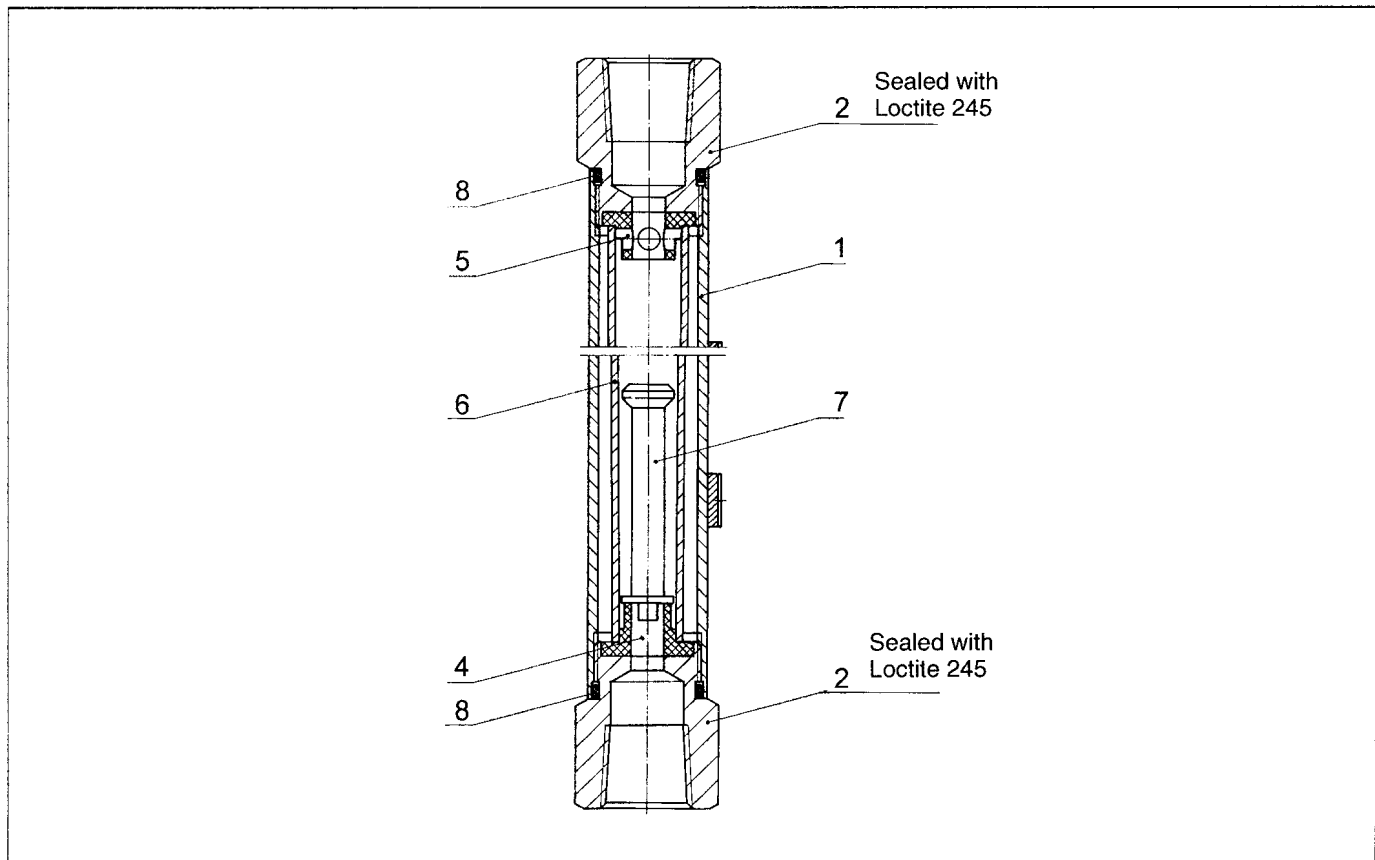
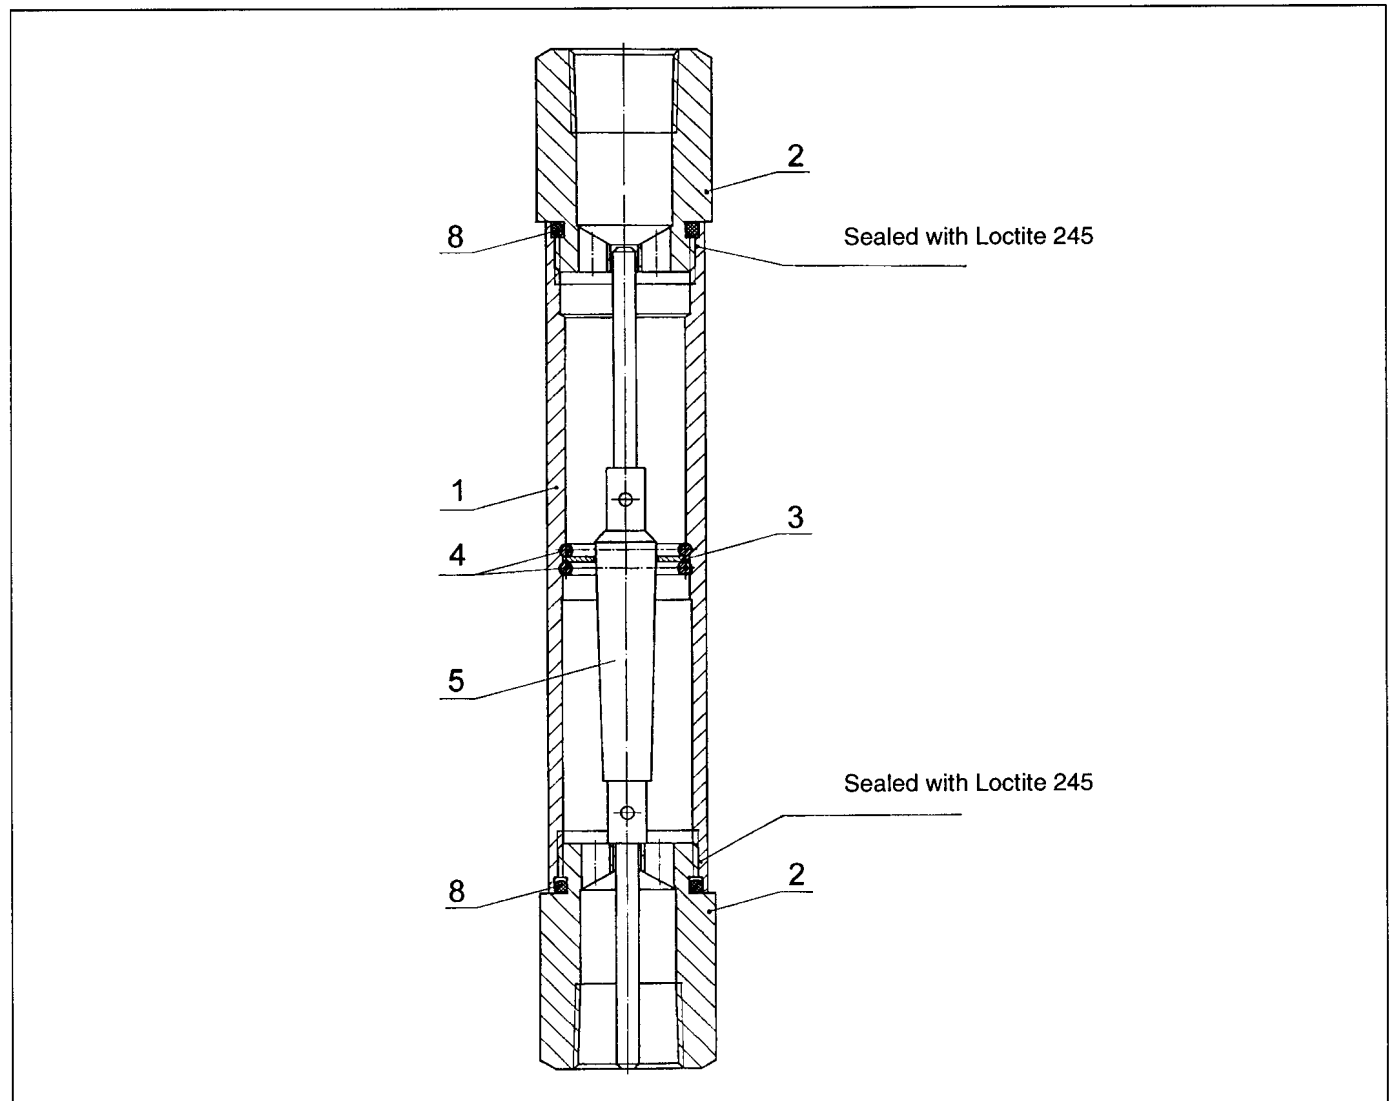

Fig. 11 Meter Tube Assembly, Complete, Vertical Connections
Fig. 12 Meter Tube Assembly, Complete Vertical Connections
4.2.1 Vertical Connections (Fig. 11 , Fig. 12)